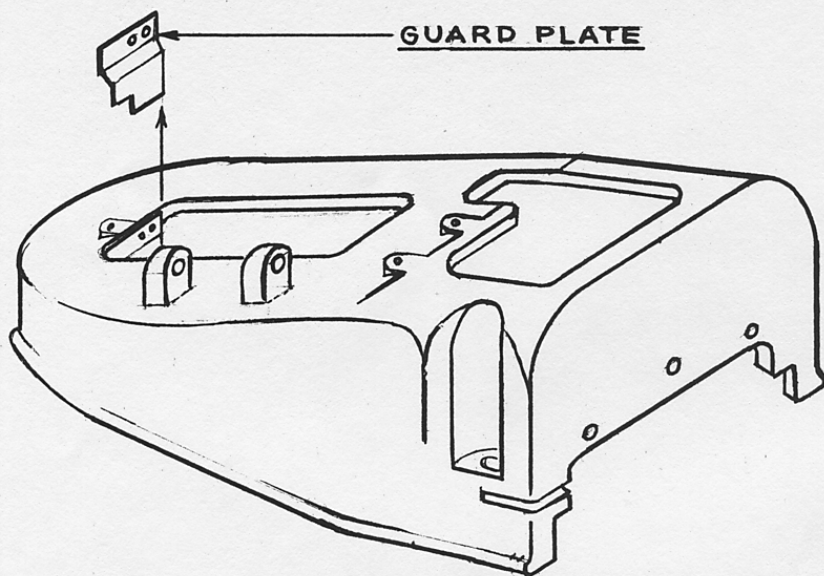

FIG. 4
14. For Comet type pots, remove the small guard plate on the pot cover which is fastened to the splash guard. See Figure 4. This guard is fastened to the splash guard by two screws. The splash guard must be removed from the crucible to get at the screws. If desired, the guard can be removed by the use of a chisel without the necessity of removing the splash guard.